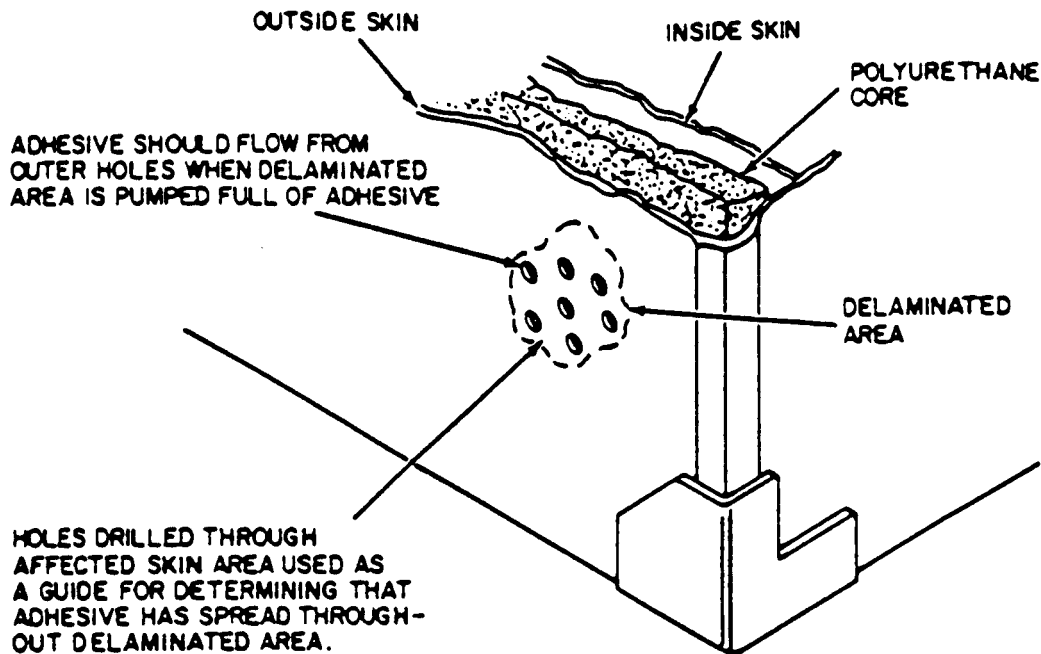

Figure 4-1. Skin Panel Delamination Repair.
*b. Repair.* (Figure 4-1)
(1) Mark off the limits of delaminated area.
(2) Using Figure 4-1 as a visual guide, drill a 3/16 inch diameter hole in approximate center of delaminated area of affected panel only. This hole will be used to pump epoxy adhesive into delaminated area.